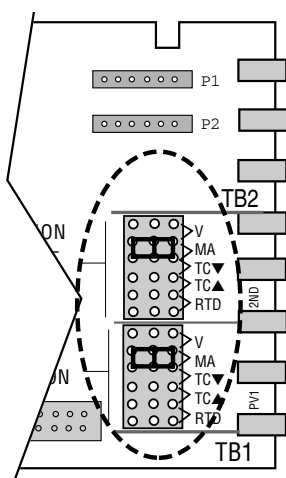

Figure A4.7
6. Remove both input jumper connectors from the pins in the 2nd position. Place one of the jumpers on the PV1 position **mA** pins, and place the other jumper on the 2nd position **mA** pins, as shown in Figure A4.7.
1. Power down the 545 controller and place the input jumpers in the desired position (refer to Figure A4.2 and Figure A4.7).